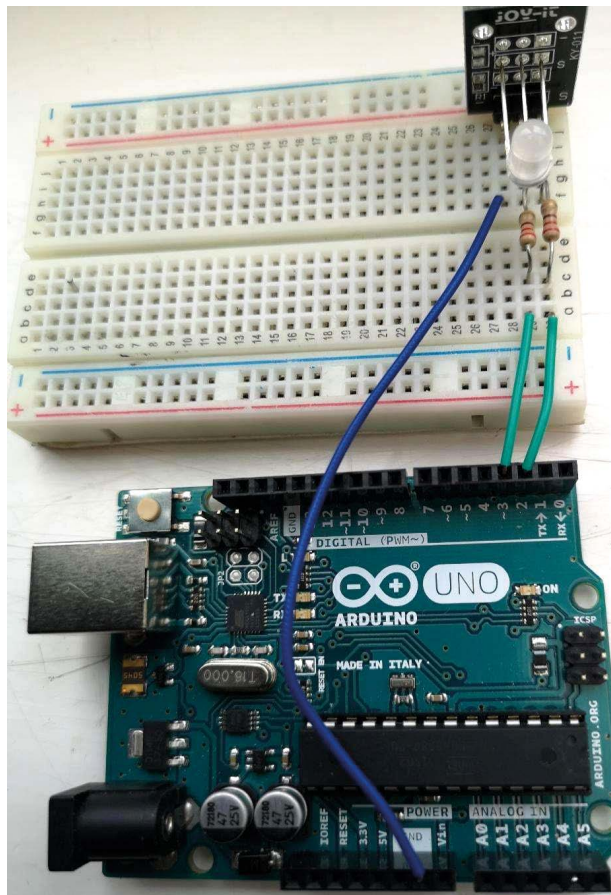

Figure 1.6 The project constructed on a breadboard
**Construction:** The project is constructed on a breadboard as shown in Figure 1.6. Jumper wires are used to connect the KY-011 to digital port pins 2 and 3 and GND of the Arduino Uno.